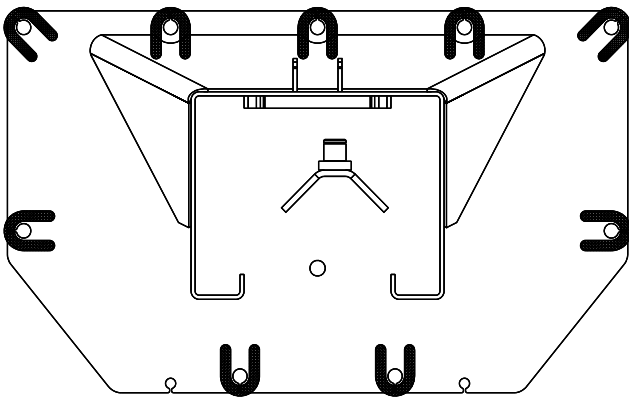

Fig. 3 – Column Shimming
- 9) Shim both columns to plumb using the shims provided as shown in **Fig. 3**. DO NOT shim more than 1/2" at any given point. Use a level no less than 24" in length to plumb columns.
- 13) Check idler column shimming. Use additional shims (**see Fig. 3**) to remove any gaps that may have been created while installing overhead beam. Tighten anchor bolts and re-check column for plumb. Torque to 150 foot pounds.